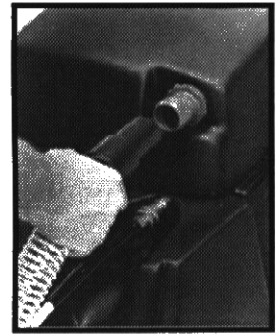

figure 8
- Connect the solution hose to the quick connect on the solution tank and on the tool. (Figure 8)